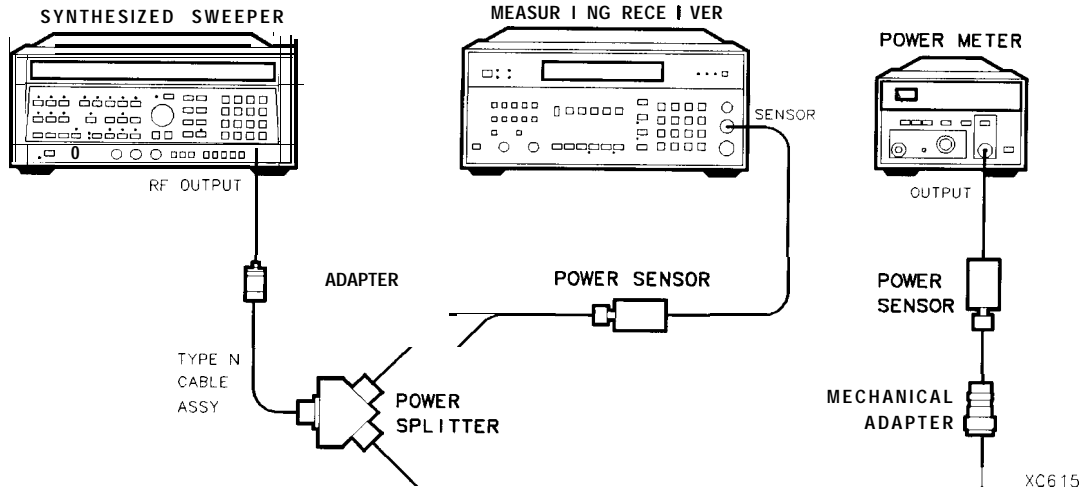

Figure 2-26. System Characterization **Test** Setup for 75 Ω Input
4. Connect the equipment as shown in Figure 2-26.